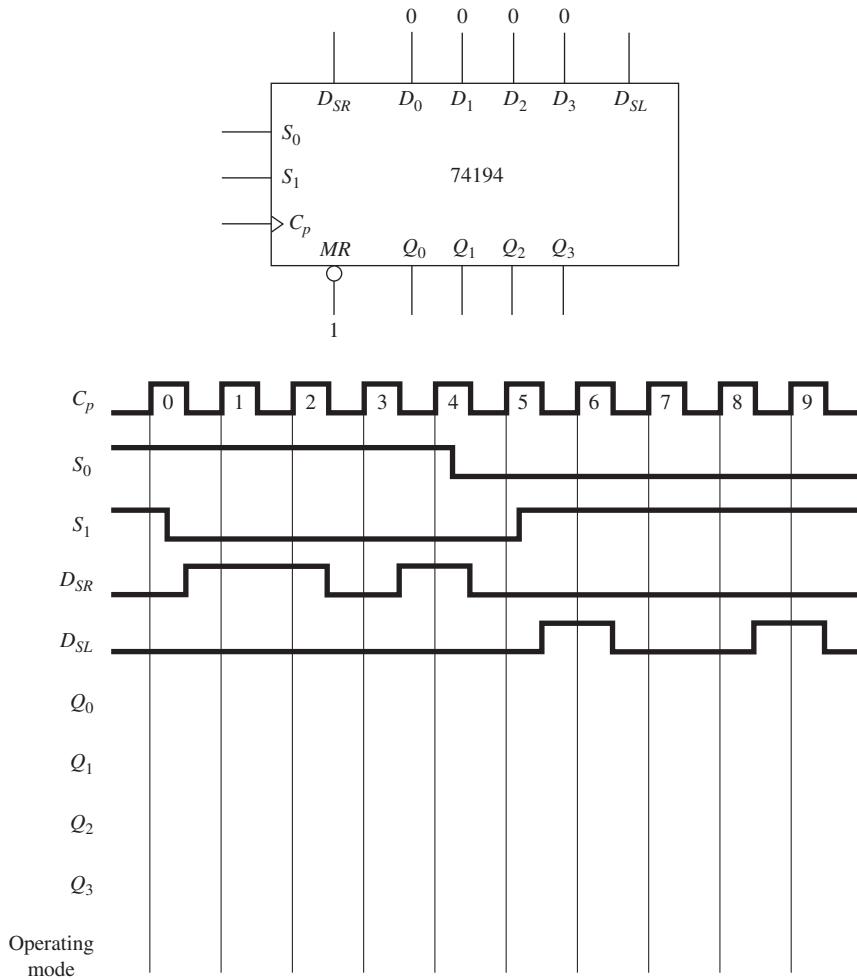

Figure P20
20. Sketch the output waveforms at Q_0 to Q_3 for the 74194 circuit shown in Figure P20. Also, list the operating mode at each positive clock edge.